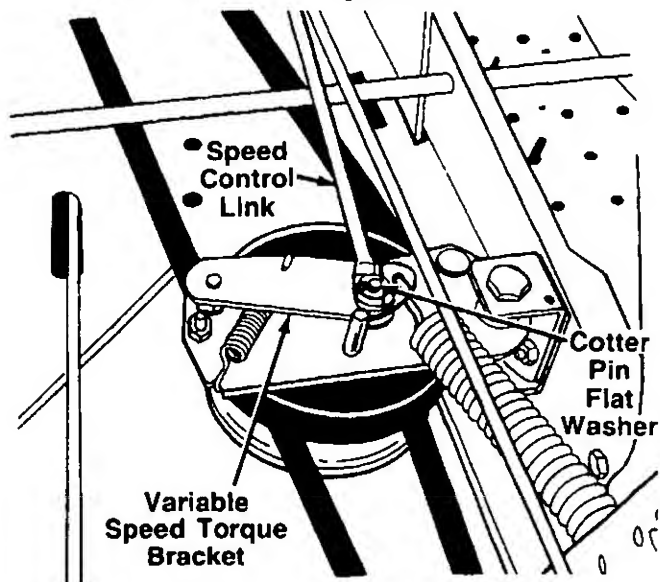

FIGURE 17.—Viewed From Beneath Tractor
9. Disconnect the speed control link from the variable speed torque bracket by removing the cotter pin and flat washer. See figure 17.